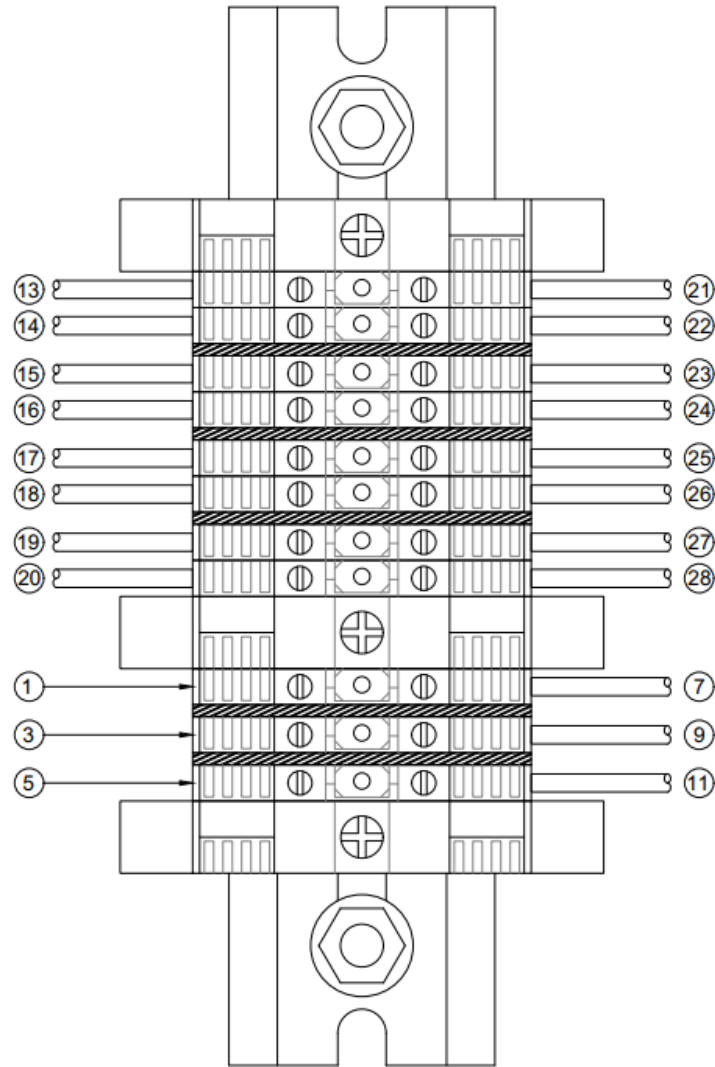

Figure 7b – Diagram –
1.10.4.2. Terminal Strip and Control Panel. See Figure 7a and Figure 7b for information on connection to the terminal strip in the upper enclosure. Use Section 5 – Potter manual 5403550 to guide the installation of connections to the control panel. Terminals for 110VAC power accept qty. (1) 10 ga. max. conductor. NOTE: All conductors used for field wiring must comply with NFPA 70 – National Electrical Code, and control panel manufacturer's instructions (see Section 5). See Section 5 for information on power-limited conductor runs.
Legend for Figure 7b